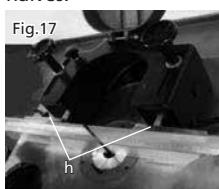

Fig.17
1. Use a straight edge that is long enough to span the length of the entire fence and position it up against both fence halves (Fig.17-H).